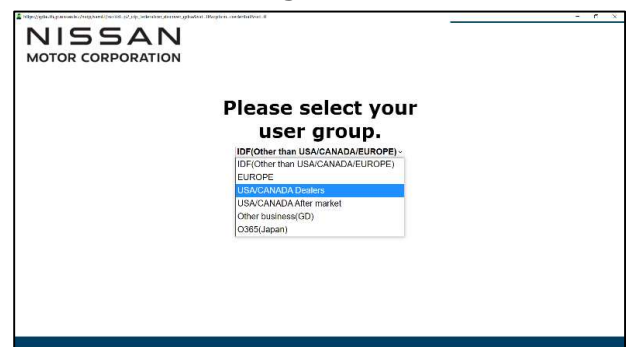

Figure 6
- If prompted, select **USA/CANADA Dealers** from the drop-down menu, and then select **OK** (Figure 6)